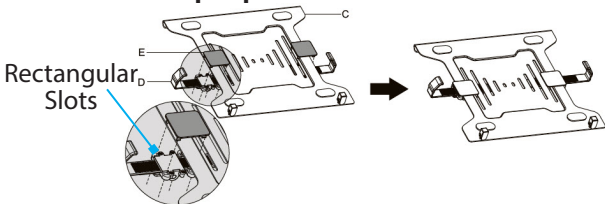

Figure 9
1. Unfold the **Laptop Holder Tabs**, located at the bottom-front of the **Laptop Tray (C)**. (Figure 9)
2. Position the **Laptop Arm Clips (D)** under the right and left-hand sides of the **Laptop Tray (C)**.
3. Align the **Small Tabs**, located on one of the **Laptop Arm Pads (E)**, with the **Rectangular Slots**, located on the **Laptop Arm Clip (D)** and the **Laptop Tray (C)**, and gently push the **Laptop Arm Pad (E)** into the **Rectangular Slots**.
4. Repeat step 4 to install the second **Laptop Arm Clip (D)**.
5. Adjust the position of the **Laptop Arm Clips (D)** to ensure the **Laptop Arm Clips (D)** will not impede access to any of the **Laptop's Side Ports**. To verify clear access, temporarily place the **Laptop** atop the **Laptop Tray (C)** and make adjustments to the **Laptop Arm Clips (D)** as necessary. Remove the **Laptop** before proceeding to the next step.